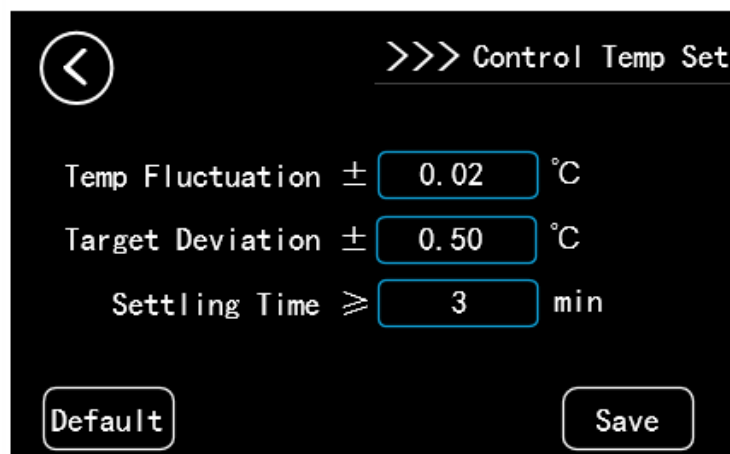

Fig 4.5 System System Interface
**Temperature control setting:** Used to determine whether the temperature control reaches the stable state. As shown in Figure 4.5, taking the parameters in the figure as an example, when the measured temperature reaches to setting temperature point within the deviation of  $\pm 0.50^{\circ}\text{C}$  and the fluctuation is less than or equal to  $\pm 0.20^{\circ}\text{C}$  for 3 minutes, the system will determine that the temperature control is stable. At this moment, the users can collect the measured data of the sensor under inspection.